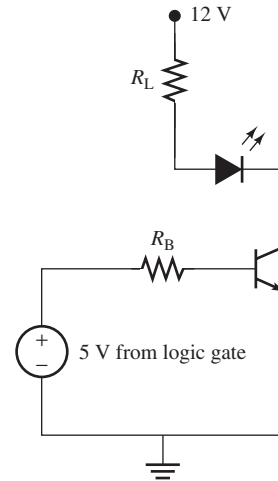

FIGURE P8.52 Logic gate-controlled photo-diode.
8.52 (A) A transistor switch (operating in the saturation region) is controlled by the output of a digital logic gate as shown in Figure P8.52. The output of the logic gate is 5 V. A resistor (R_B) is needed to limit the current out from the digital logic gate to 5 mA to protect it, and a resistor (R_L) is also needed to limit the current through the photo-diode to 10 mA. Calculate the value of the two protecting resistors.